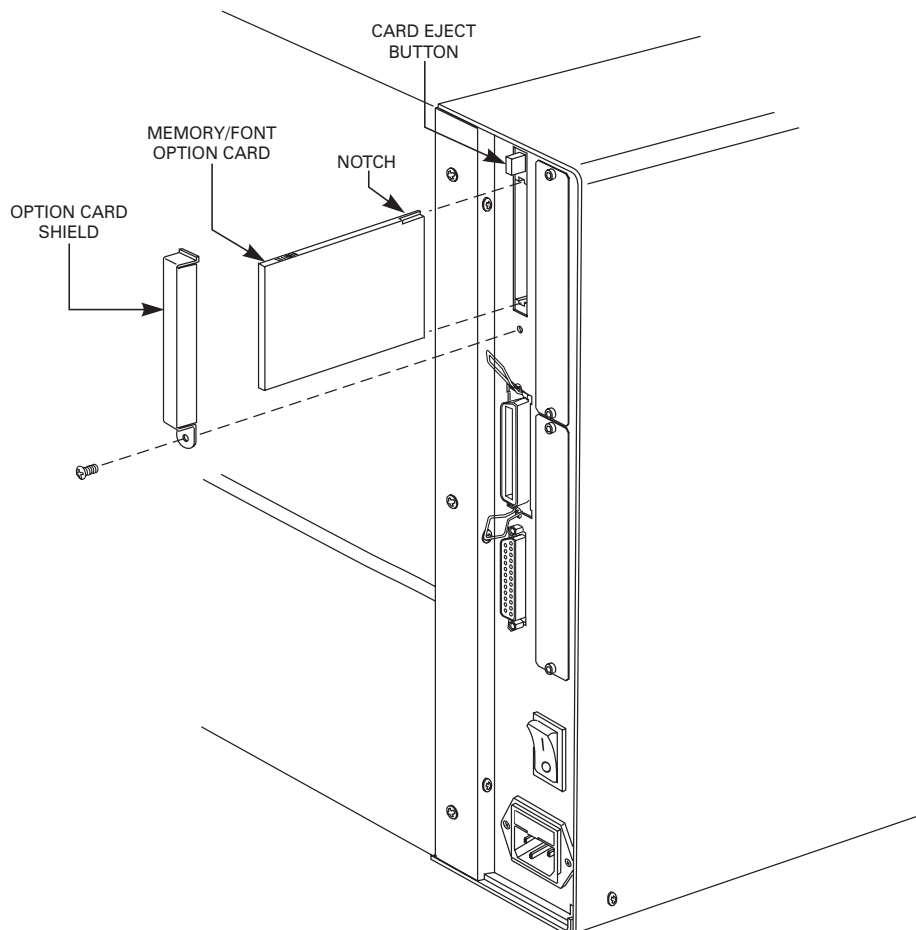

Figure 5.18 Memory Card and Font Card Installation
2. Refer to Figure 5.18 and remove the Option Card Shield from the rear of the printer.